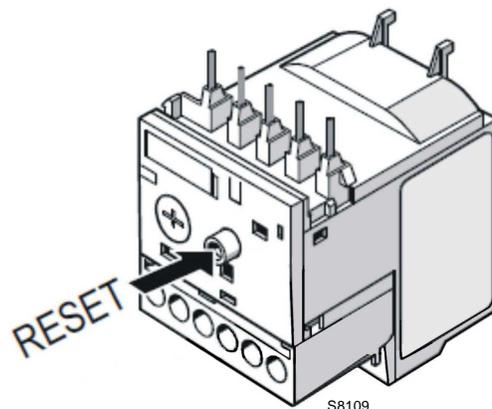

Fig. 36
- To reset, in the case of an intervention of the thermal relay, press the button "RESET" (Fig. 36).